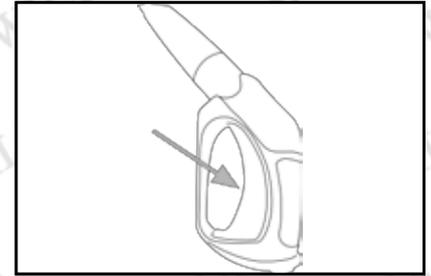

Fig.8
3. Trigger gun to spray detergent **(fig.8)**